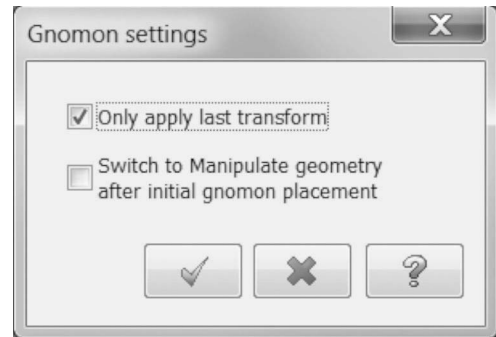

Figure 5-36 Gnomon Settings
- Press enter and follow the prompt ctrl-right-click for gnomon settings. Uncheck the box “switch to manipulate geometry after initial gnomon placement” (Figure 5-36), then press OK.